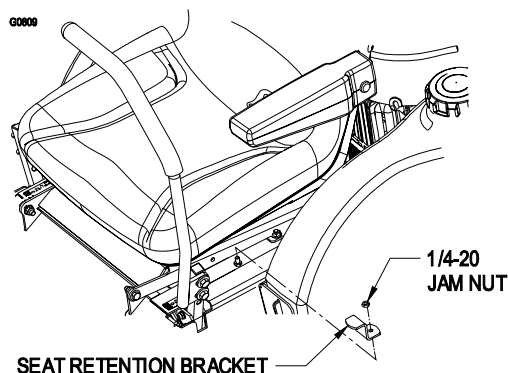

FIGURE 4
- 1.9.3 The Seat Retention Bracket and 1/4-20 Jam Nut can be removed from the mainframe. See Figure 4.